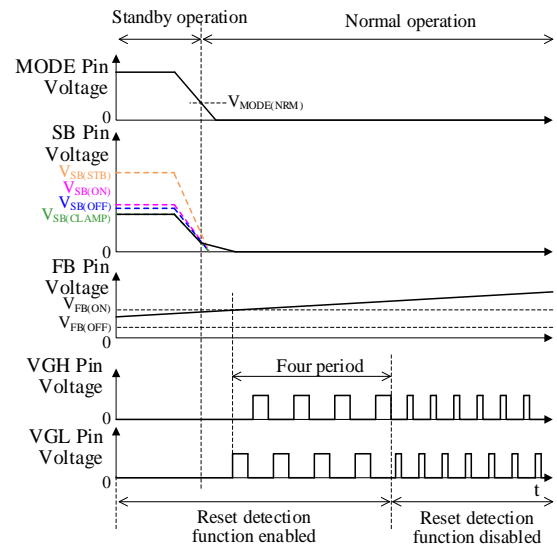

Figure 9-33. Timing for Enabling/Disabling Reset Detection Function (Shifting from Standby to Normal Operation)
- in 4 cycles of V_{GH}/V_{GL} immediately after switching from standby operation to normal operation (see Figure 9-33)